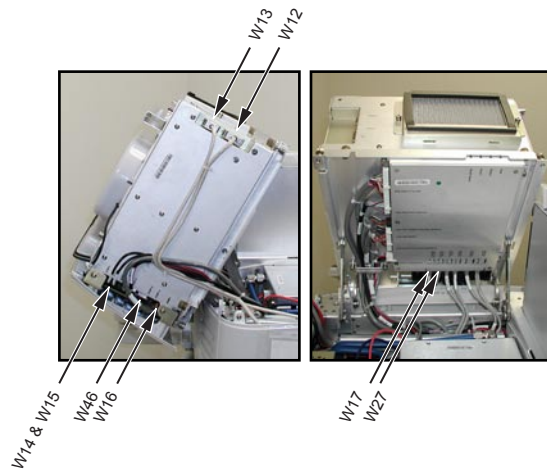

Figure 3-4 Remove Rear Panel From Host
2.4 Disconnect cables from Host assembly and Supervisor (see Figure 3-4 for locations):
- 2.6 Cut tie-wraps securing cables to side of Host assembly. When reassembling, secure cables with tie-wraps where shown in Figure 3-4.